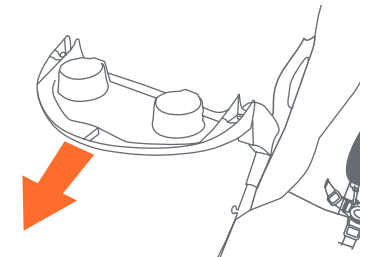

Fig. 10d
- To remove the child tray: Press the release button and rotate the tray 180 degrees and pull the tray until it is released (Fig. 10d).